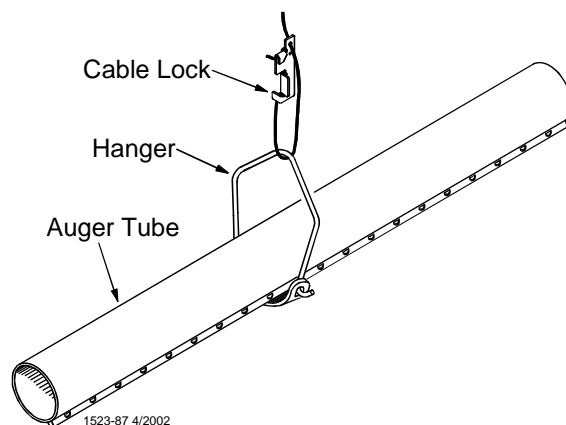

Figure 32. Assembling Feeders on the Tubes
1. Assemble the End Control Unit to the Feeder Line Control Tube using a clamp/anti-roost bracket. See **Figure 32**. **DO NOT INSTALL THE POWER UNIT AT THIS TIME.**